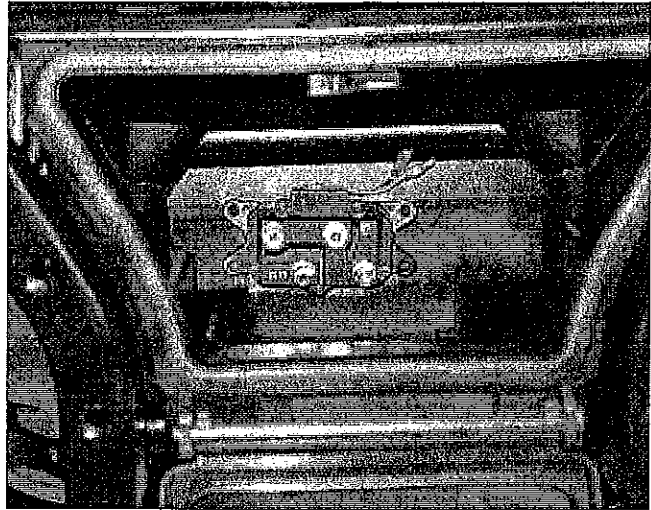

figure 4
7. The contactor will be located back near the battery. Suggested mounting location is inside the rear storage compartment, see figure 4. If attaching the contactor in the storage box, a hole will need to be cut into the back of the box to allow the cabling to be routed to the battery, winch, and handle bar switch.